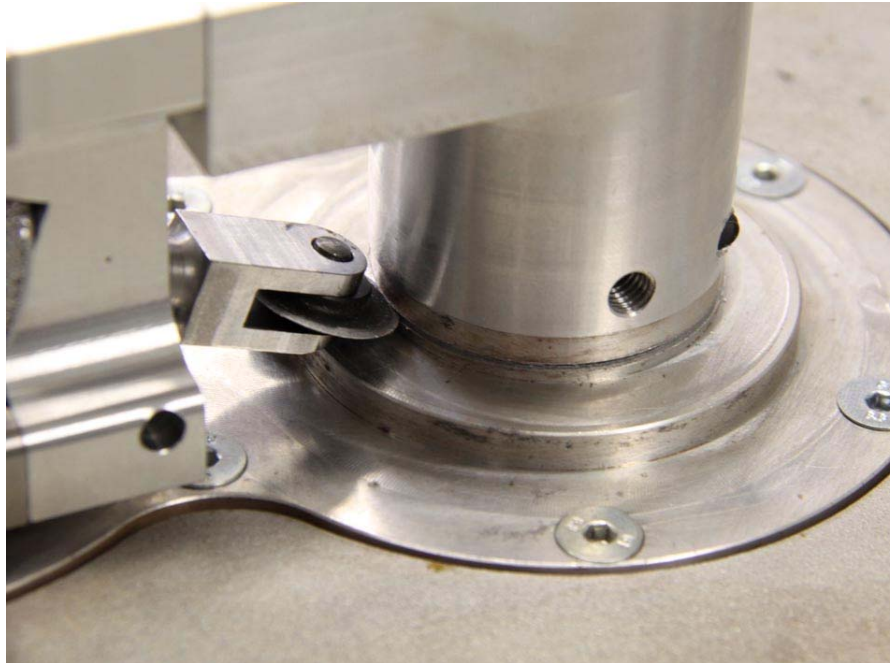

Fig. 7 Shoulder is cut through
13. Feed the cutting tool. Refer to work step 12. Then turn the special tool. Refer to work step 13. Repeat work step 12 and 13 until the shoulder of the rear gearbox cover gets loose. See Fig. 7.